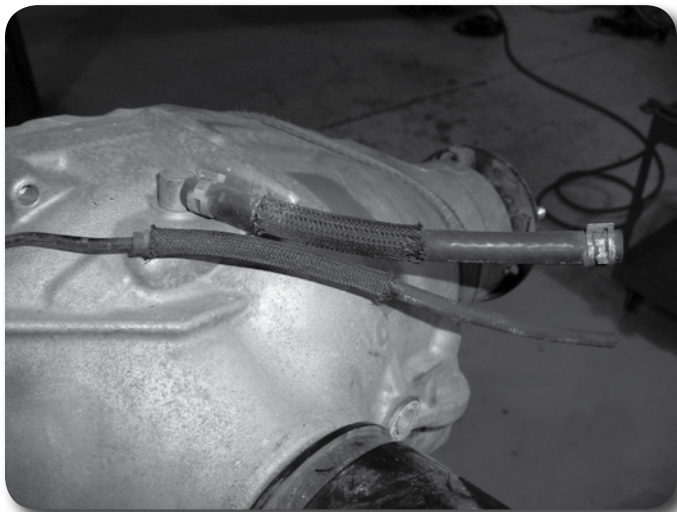

Figure 28
35. Locate and replace the factory vacuum and breather lines on the top of the differential **Figure 28**. Transfer the hose clamps from the factory breather hose to the new provided one. The vacuum line does not have clamps and just slides onto the hard line.